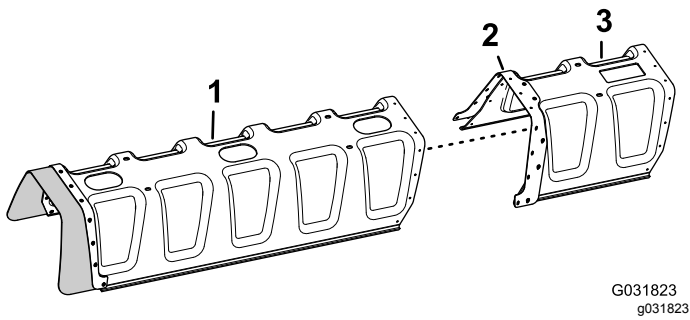

Figure 232
- Align the holes in the reinforcement plate (double row) on the cover extension with the holes in the end of the 11-nozzle boom cover (Figure 232).